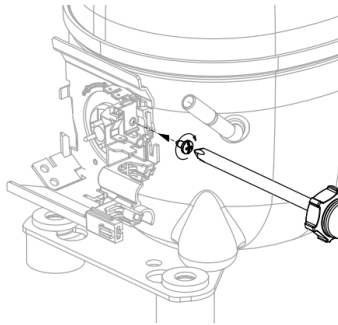

Figure 3.6: Step 3 - Screw the grounding terminal in cord anchorage bracket
- Secure the screws depicted in Figure 3.6 with a torque of 0.1 - 0.6 Nm (± 0.2).